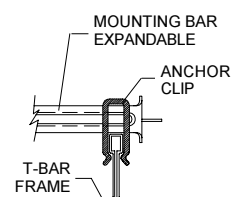

FIG.11
- Note:** When used with the 20" expandable mounting bars (N°1964), use the anchor clip for T-bar frame (N°1956, order separately). (Fig.11)